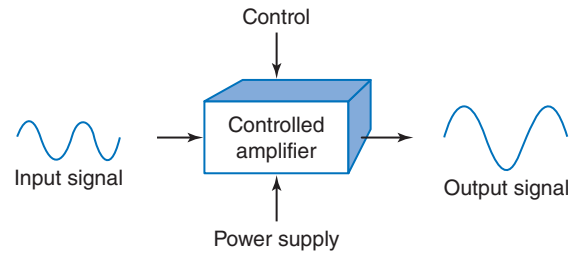

Fig. 1-7 Amplifier with a control input.
Figure 1-7 shows an amplifier that is controlled by a separate input. If its output signal is not correct, the possible causes are: (1) the power supply is defective, (2) the input signal is defective, (3) the control input is faulty, (4) the